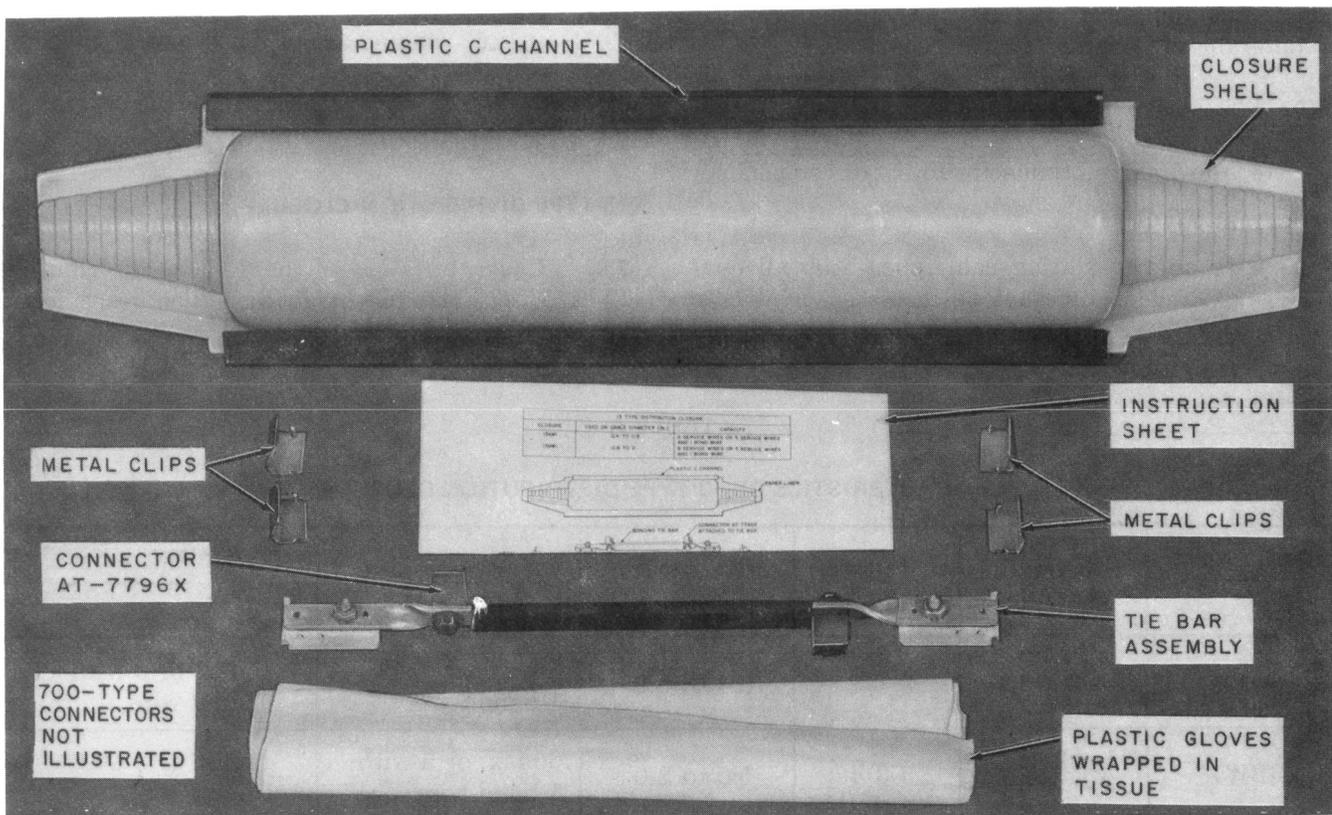

Fig. 1—13-Type Distribution Closure
2.02 The 13-type distribution closure illustrated in Fig. 1 consists of the following components: